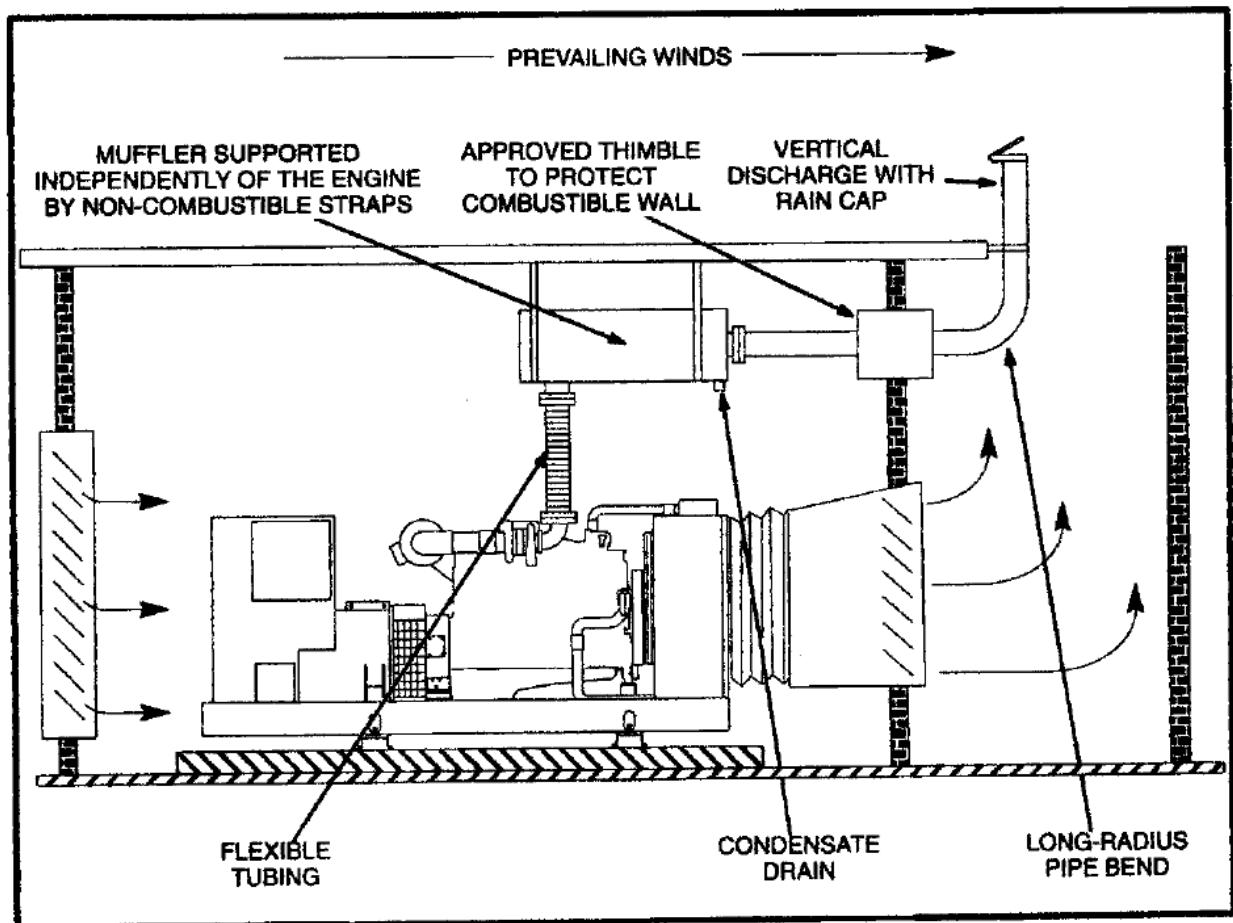

FIGURE 21. TYPICAL EXHAUST SYSTEM
The function of the exhaust system is to convey engine exhaust safely to the out-of-doors and to disperse the exhaust fumes, soot and noise away from people and buildings. See Figure 21. Consider the following (also review Location and Noise under Application):
**Example Calculation:** The layout of an exhaust system similar to that shown in Figure 21 calls for a 5-inch diameter by 24-inch long flexible tube at the engine exhaust outlet, a critical grade muffler with a 6-inch diameter inlet, 20 feet of 6-inch diameter pipe and one 6-inch diameter long radius elbow. The generator set Specification Sheet indicates that the engine exhaust gas flow is 2,715 cfm (cubic feet per minute) and that the maximum allowable exhaust backpressure is 41 inches WC (Water Column).